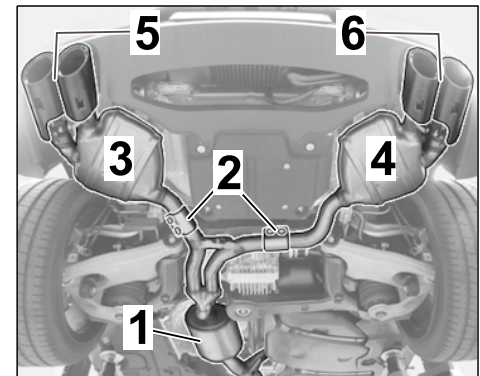

Figure 48 (4-cylinder)
6.3 Install new rear mufflers (⇒ *Figure 48 (4-cylinder)*).